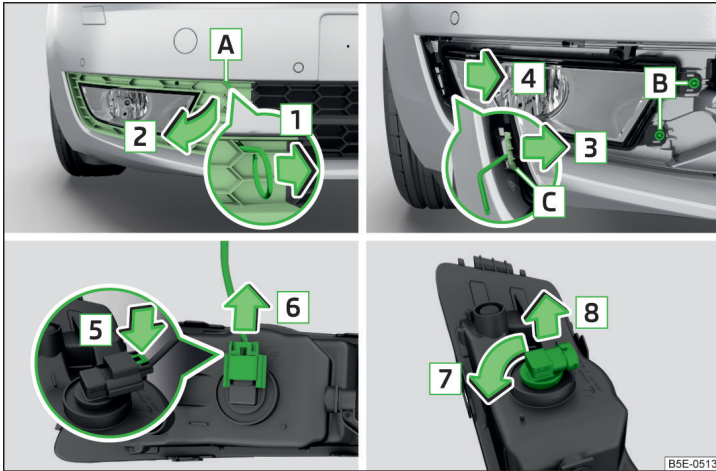

Fig. 228 Remove the fog lamp / bulb change - Version 1
- Insert in opening **A** » Fig. 228 the clamps for removing the full wheel covers » page 212, *Vehicle tool kit*.
- Replace the fog light by inserting it in the opposite direction of the arrow **4** » Fig. 228 and tighten.